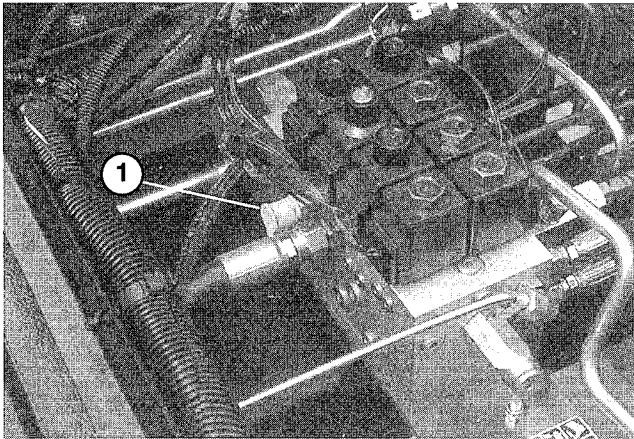

Figure 48
HYDRAULIC SYSTEM TEST PORTS (Fig. 48–50)
1. Test Port #1 (Fig. 48) is used to assist in trouble shooting the hydraulic circuit for the front cutting units and lift cylinders.